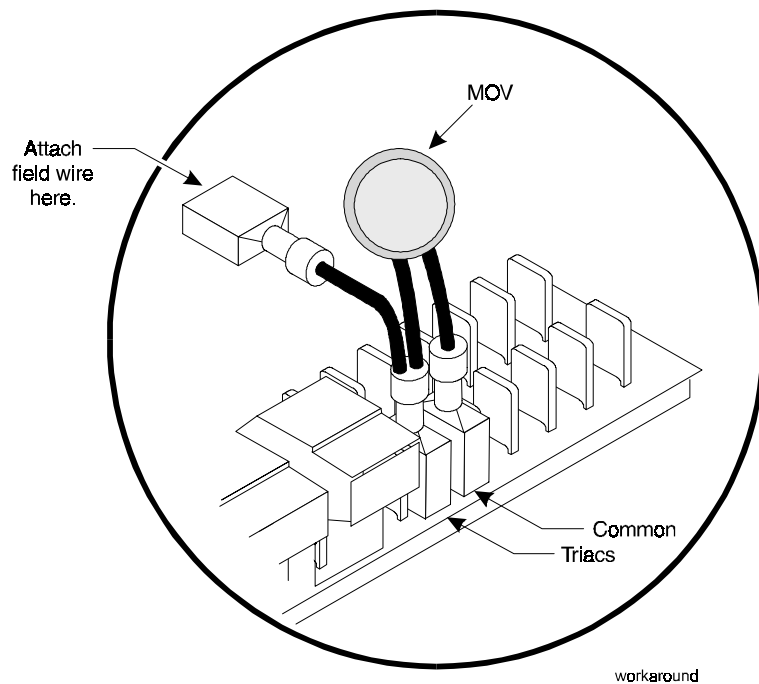

Figure 38: Installation of MOV
- **If a separate transformer is used to supply the binary output voltage**, install a Metal Oxide Varistor (MOV) according to the following procedure (see Figure 38):